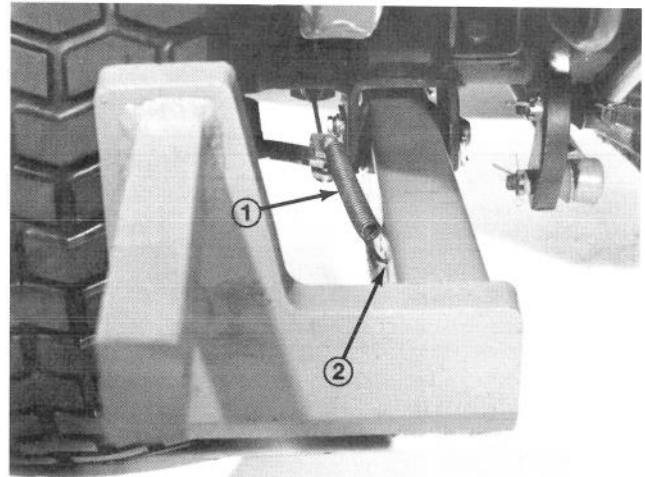

Figure 3
4. Remove cotter pins from clevis pins holding brake struts and yokes together, and discard the cotter pins. Keeping clevis pin in place, install short end of spring into hole in clevis pin to retain parts together. Connect other end of springs to slotted holes in lift arms (Fig. 3).